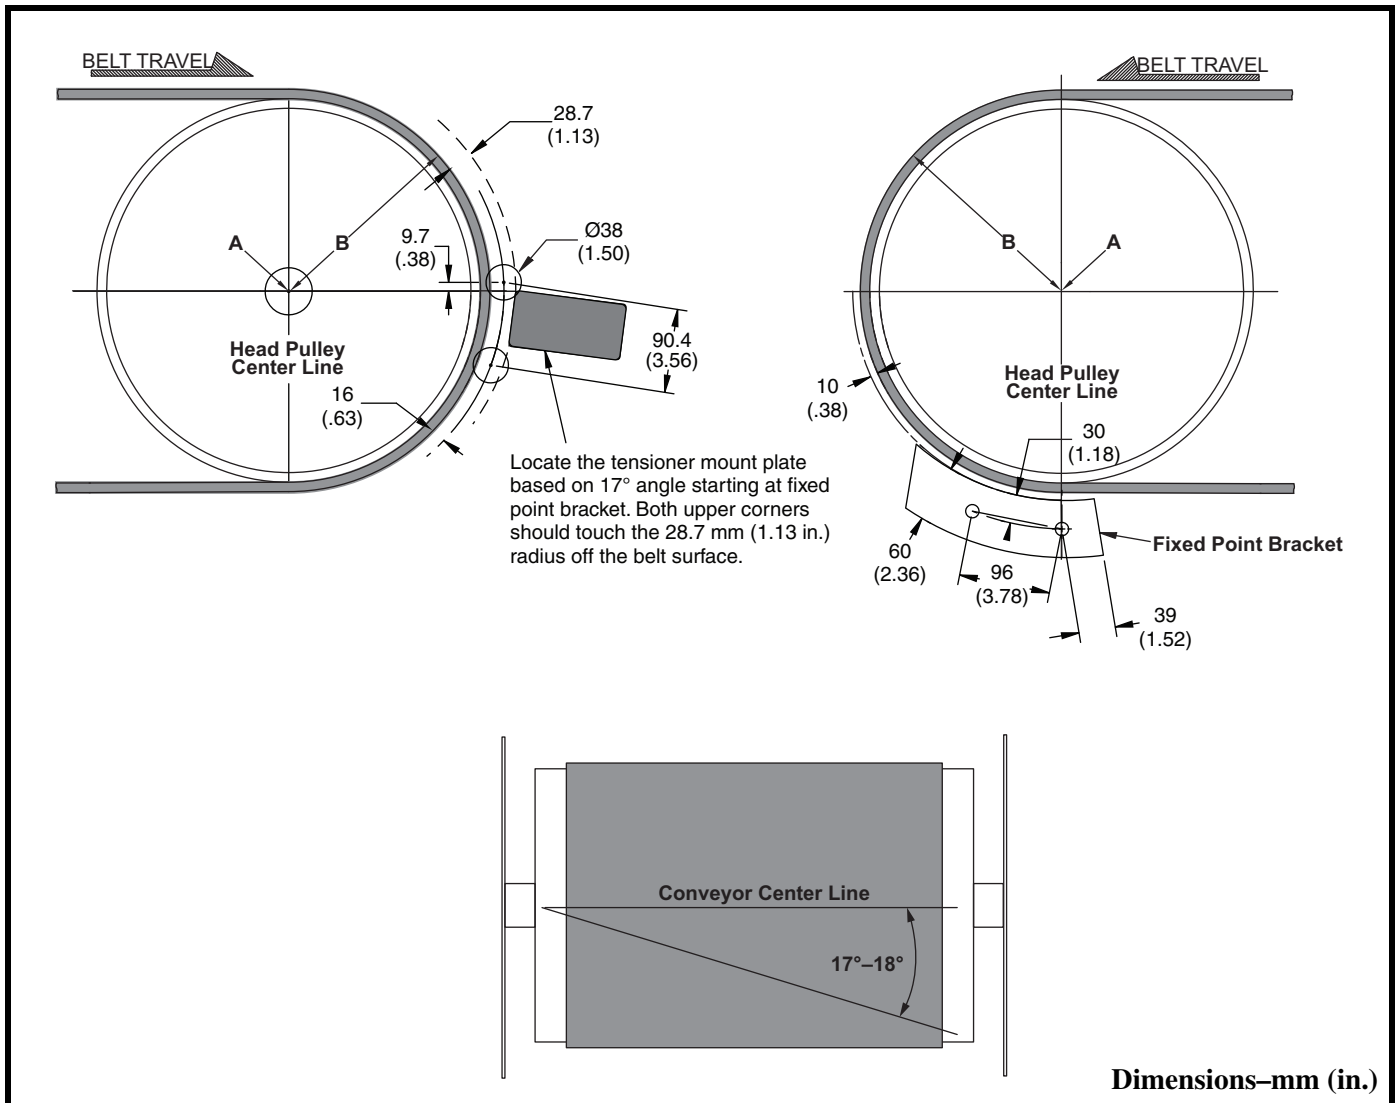

Figure 5. Belt Cleaner Location & Chute Wall Cutouts
- (1) Position fixed point bracket on far side chute wall as shown in Figure 5. Align bolt hole on bracket with head pulley center line.
- (2) Mark bracket hole locations.
- (3) Drill or cut two 12.7 mm (1/2-in.) holes for screws in far side chute wall.
- (4) Mount fixed point bracket to inside of far side chute wall using countersunk screws and nuts.
- (2) Weld bracket to chute wall. Weld completely around bracket. Do not skip weld.
- a. Mark chute wall cutouts as shown in Figure 5.